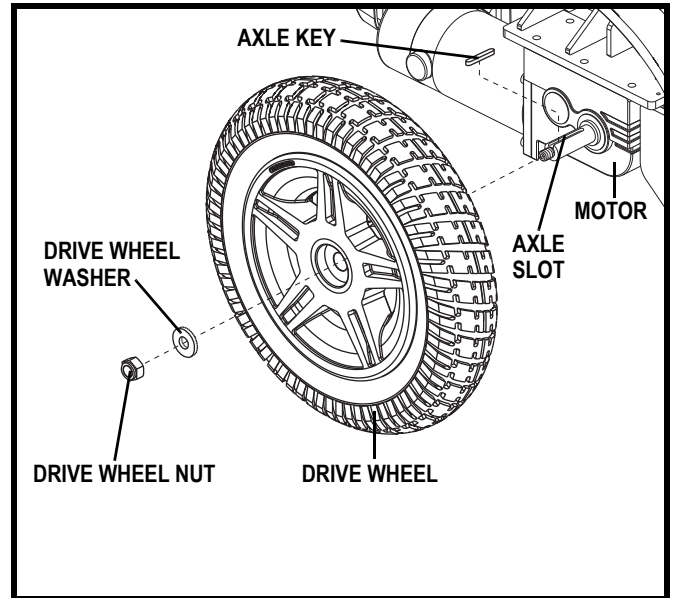

Figure 17. Jazzy Elite Series Drive Wheel Removal
4. Remove the drive wheel nut and washer from the axle. See **figure 17**.
8. Reinstall the drive wheel nut and washer onto the axle and tighten. See **figure 17**.